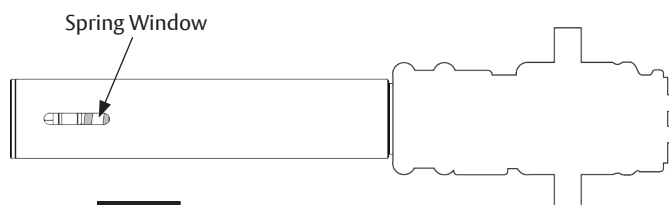

Figure 15
**NOTE:** Window in closer tube shows spring. (Figure 15)